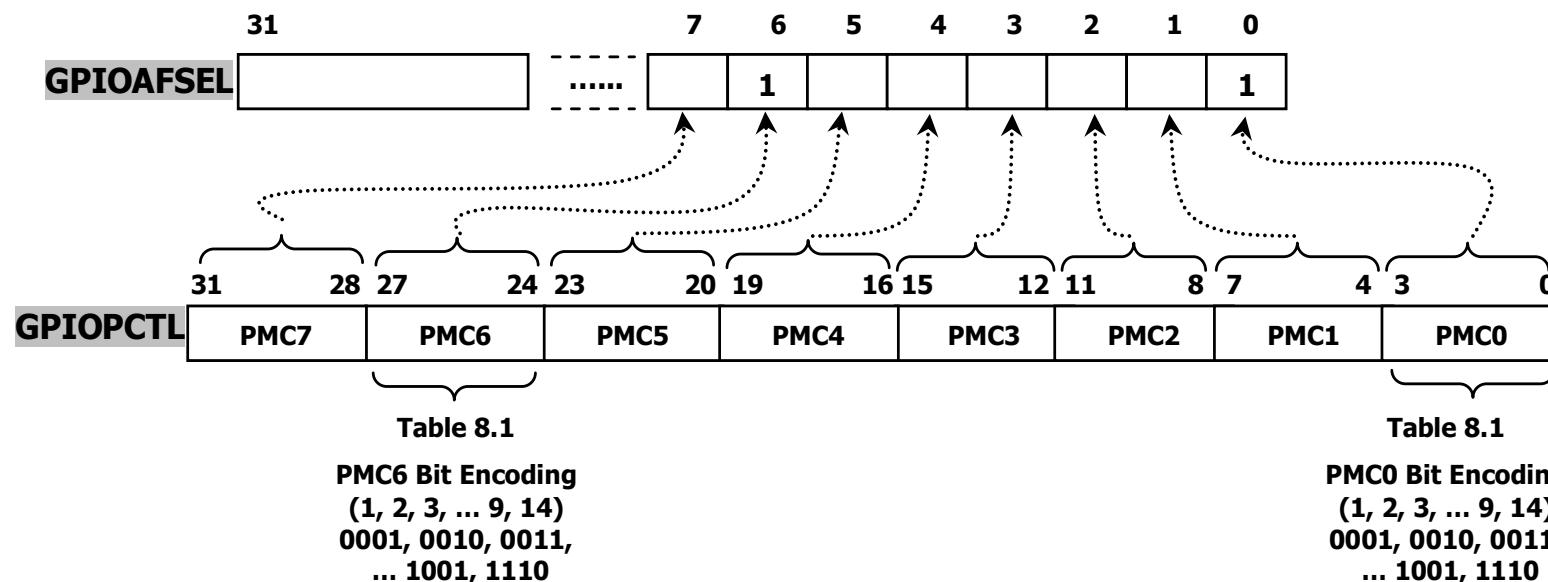

Figure 8.2 The illustration for GPIOAFSEL and GPIOPCTL registers.
- Table 8.1 is a copy of Table 2.6 in Chapter 2 and Figure 2.19 is also redrew here as Figure 8.2 to make this issue clear.
- Refer to Figure 8.2 and Table 8.1, the alternate function for each selected pin can be uniquely determined. For example, the bits **0** and **6** in the **GPIOAFSEL** register in the GPIO Port A are set to **1**. This means that both pins **0** and **6** in the GPIO Port A should work as alternate function pins to connect to the special peripherals to provide special functions.